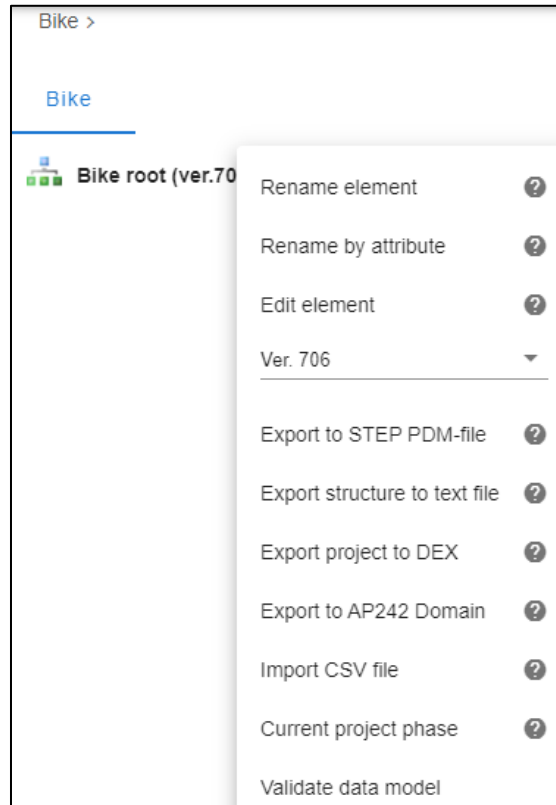

Figure 133. Initial project root context menu
1. When the project is opened and the root node has not yet been selected, the menu in Figure 133 is available.
The menu in Figure 133 becomes also available by selecting the left-most constituent of the breadcrumb path, which represents the project root.
This chapter describes the menu items of the project root as shown in Figure 133. Some of the items are applicable to an ordinary breakdown element when it plays the role of a child node.